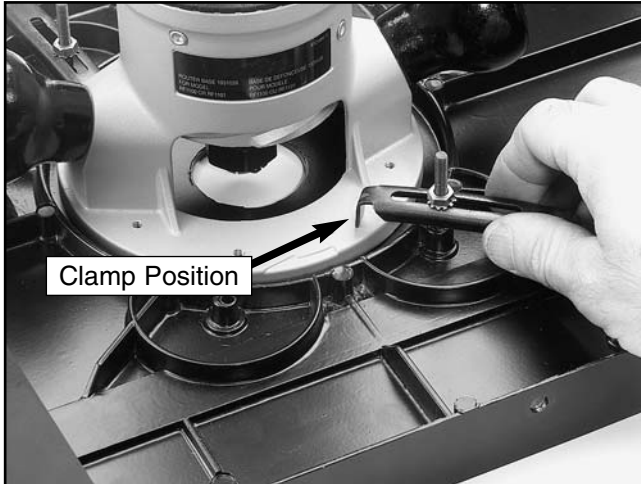

Figure 9. Rotating a clamp over the router base.
7. Hold the router and rotate the clamps over the router base as shown in **Figure 9**.